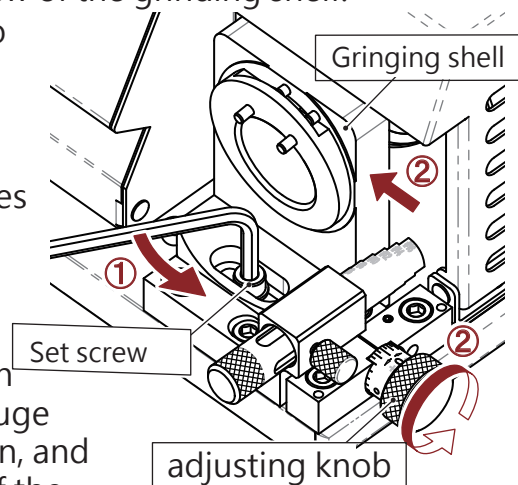

Fig. 5-1
2. Adjust the grinding shelf to the initial position ◦ (Fig. 5-1)
- ① Use a hexagon wrench to loosen the set screw of the grinding shelf.
- ② Turn the adjusting knob counterclockwise to make the grinding shelf move to the left to the end position.